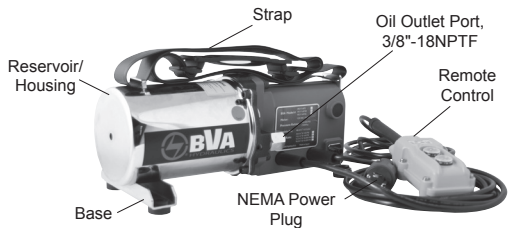

Figure 2 - PE17-AP3S, Main Components
6. Use the control valve lever to control the direction of fluid flow. These pumps are equipped with a 3-way 3-position valve for use with single acting cylinder applications **ONLY**. Refer to Figure 2 below for the flow path.
11. Depressurize all connections before disconnect. If you have any questions, call BVA Technical Service @ (888)-332-6419.